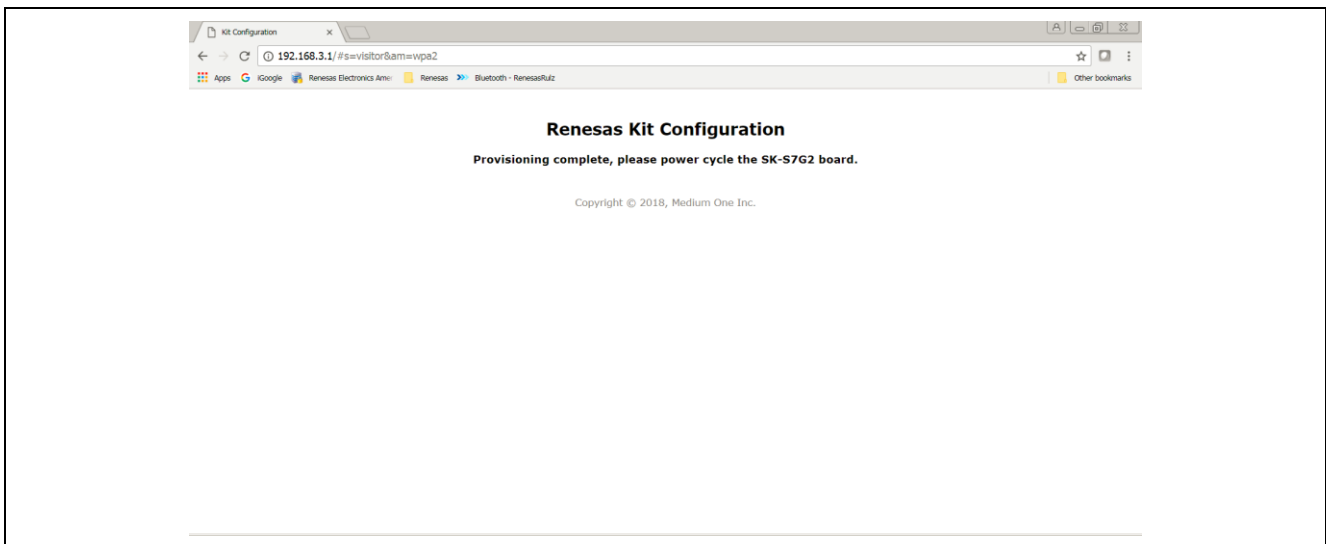

Figure 12 Completion of WiFi module configuration
Step 10. Get message on completion of WiFi module configuration as shown in Figure 12.